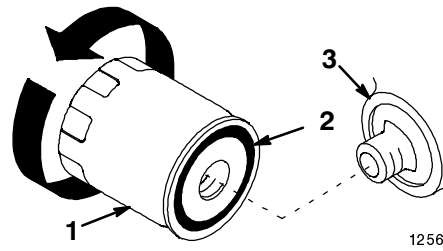

Figure 32
2. Remove the old filter (Fig. 32).
3. Wipe the filter adapter gasket surface (Fig. 32).
4. Apply a thin coat of new oil to the rubber gasket on the replacement filter (Fig. 32).
5. Install the replacement oil filter to the filter adapter. Turn the oil filter clockwise until the rubber gasket contacts the filter adapter, then tighten the filter by hand an additional 3/4 turn (Fig. 32).
10. Add oil to the full (H) mark on the dipstick.